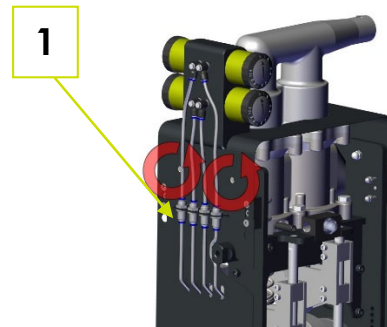

Fig. 4-5: Rear
2. On the rear of the Piston pump (Fig. 4-5: Rear) unscrew the two hexagon socket screws M6x50, 5 turns using a 4 mm Allen key (↻).
4. Disconnect the lubrication lines (Fig. 4-5: Rear) from the push-in fittings (1).